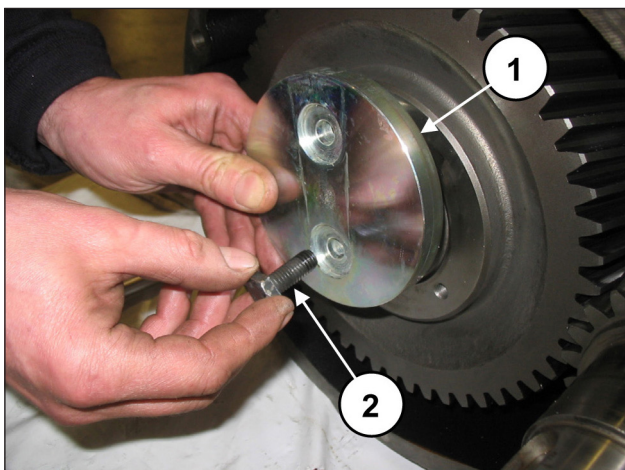

Fig. 63
Fasten the ring gear stop (pos. ①, Fig. 63) using the 2 M10x25 screws (pos. ②, Fig. 63).